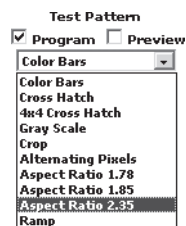

Figure 6-4 — Test pattern drop box
1. Click the Ttest Pattern field. A drop down box appears (figure 6-4).